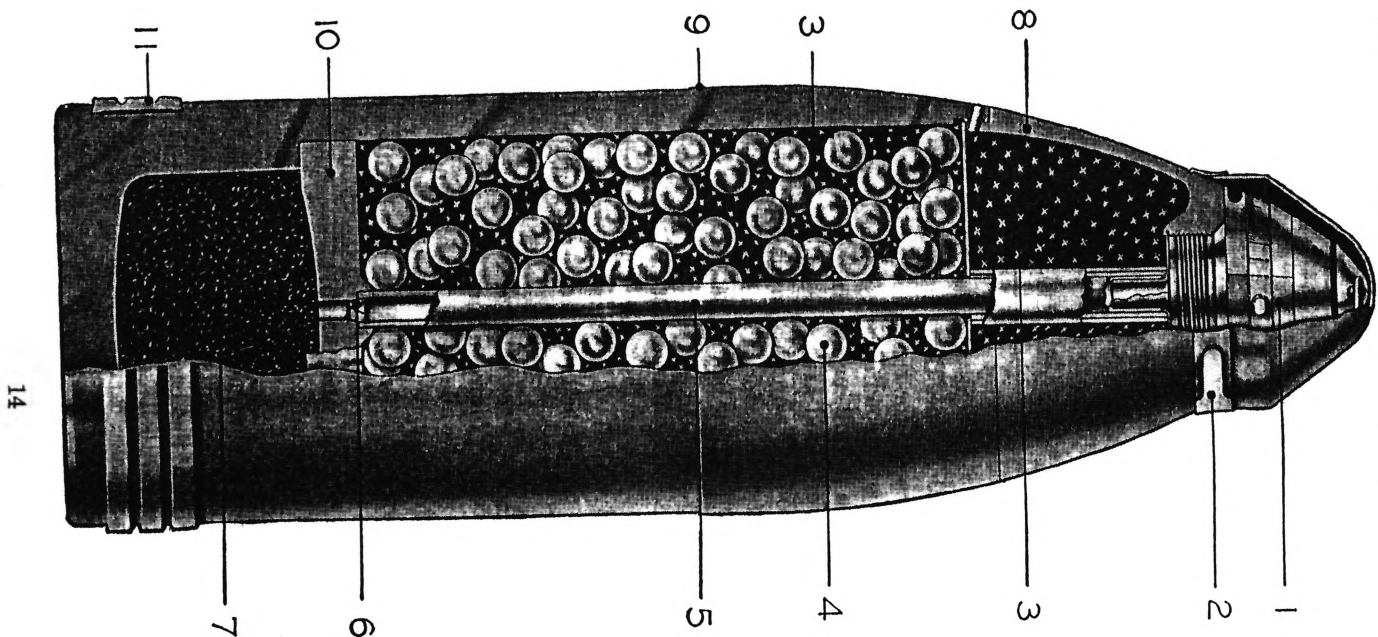

FIG. 8.—155-mm. shrapnel, Mk. I
(4) All screening smoke fillers are indicated by one yellow band, and the symbol of the smoke filler, followed by the word "Smoke," is stenciled on the shell. All stenciling on the shell in the new marking system is of the same color as the band or bands.
*b. Description.*—The Mk. I shrapnel is shown in Figure 8.